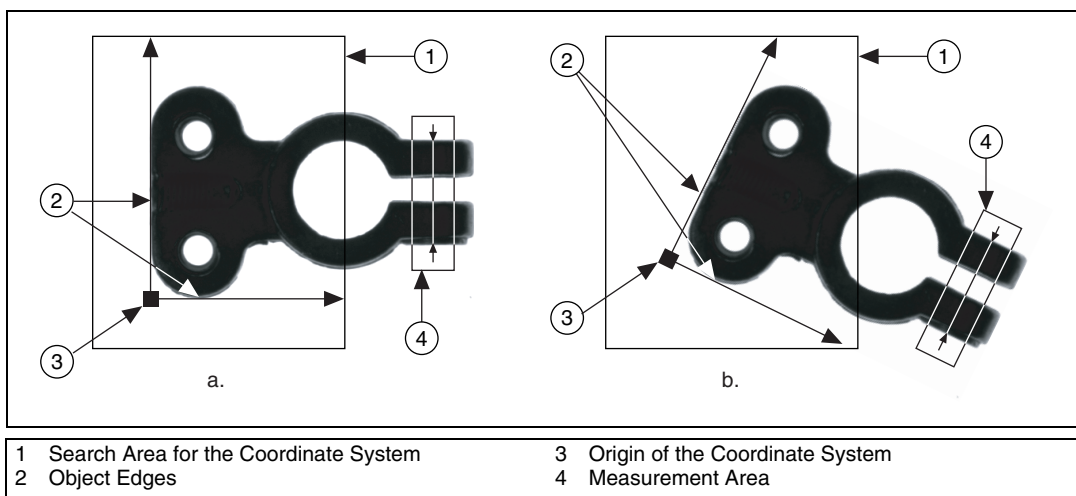

Figure 5-2. Coordinate Systems of a Reference Image and Inspection Image
- a. If you use `imgaFindTransformRect()`, specify one rectangular ROI that includes part of two straight, nonparallel boundaries of the object, as shown in Figure 5-2. This rectangular region must be large enough to include these boundaries in all the images you want to inspect.